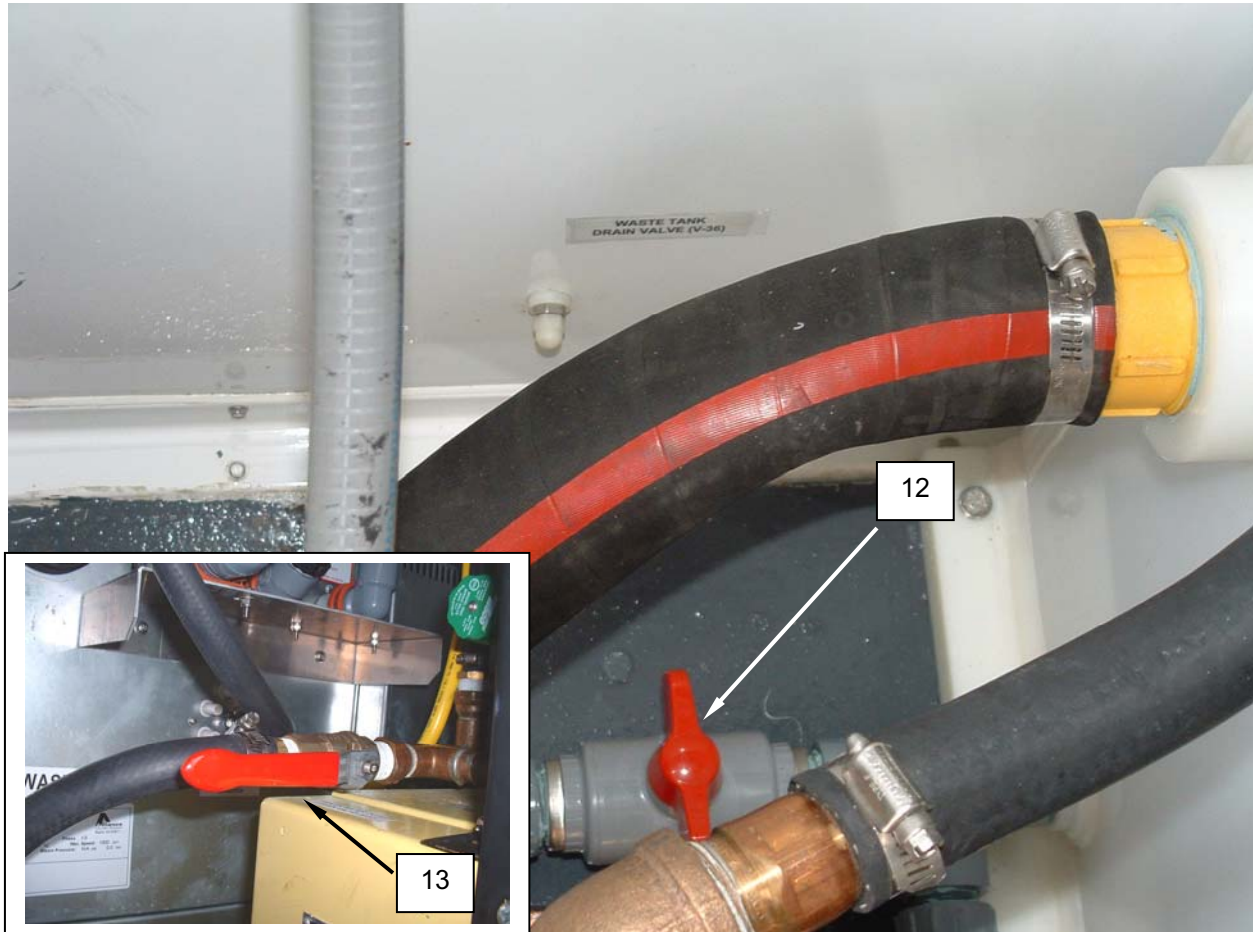

Figure 9. Close the Drain Tank Drain Valve.
7. Close the drain tank drain valve (Figure 9, Item 12).
8. Close the boiler drain valve (Figure 9, Item 13).